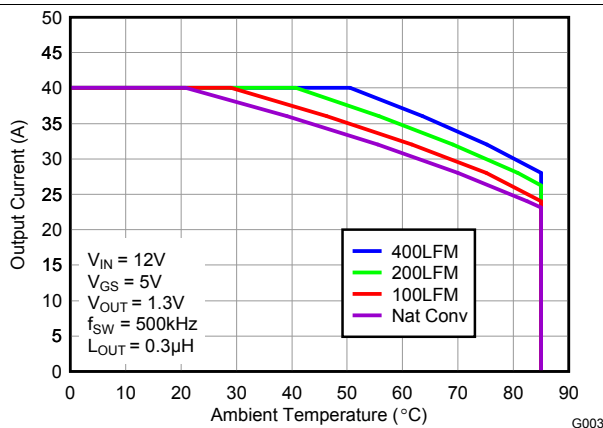
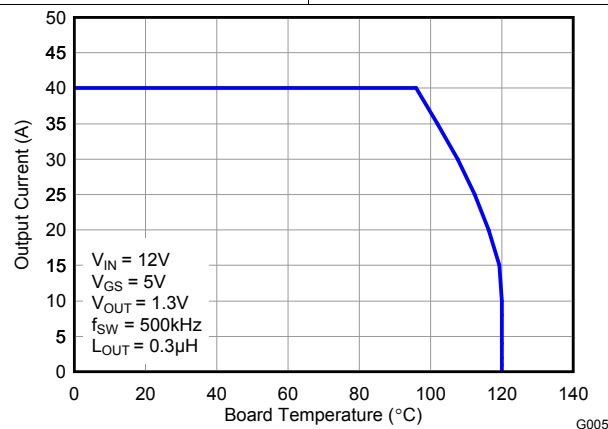

Figure 3. Safe Operating Area – PCB Vertical Mount ⁽¹⁾
Figure 5. Typical Safe Operating Area ⁽¹⁾
The SOA curves in the CSD86350Q5D data sheet provides guidance on the temperature boundaries within an operating system by incorporating the thermal resistance and system power loss. **Figure 3** to **Figure 5** outline the temperature and airflow conditions required for a given load current. The area under the curve dictates the safe operating area. All the curves are based on measurements made on a PCB design with dimensions of 4 in (W) × 3.5 in (L) × 0.062 in (T) and 6 copper layers of 1-oz copper thickness.